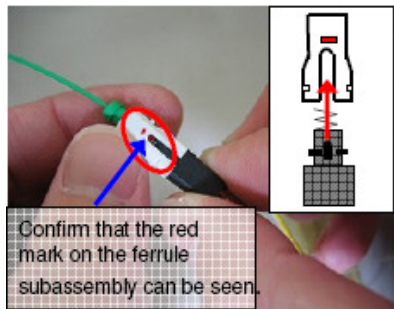

Figure 33
15. Align the groove and the inner housing over the rear housing until the components lock together. (Fig. 33)